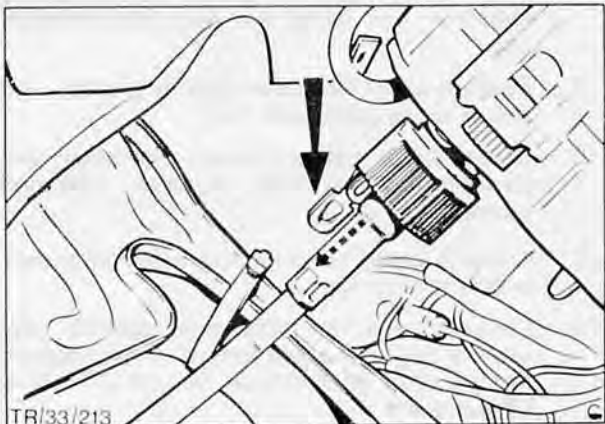

Fig. 24. Release drive cable securing collar locking key
4. Disconnect drive cable by removing seal (where applicable), releasing collar securing key, Fig. 24, and twisting cable retaining collar anti-clockwise. Lift tachograph and bracket assembly clear of facia.